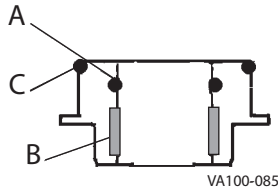

Figure 34 - Standard Lower Bearing Carrier
1. Remove and replace the O-ring(s) (Figure 34, item A) located inside the lower bearing carrier. For the flush/steam barrier adapter, see Figure 6 on page 14.
2. Check the split bearing (Figure 34, item B) inside the lower bearing carrier by feeling the amount protruding from the lower bearing carrier wall. If the bearing is flush with the wall, replace the bearing.
7. To remove the outer O-ring (Figure 34, item C), slide or cut the O-ring off the lower bearing carrier. Do not nick or scratch the O-ring groove.